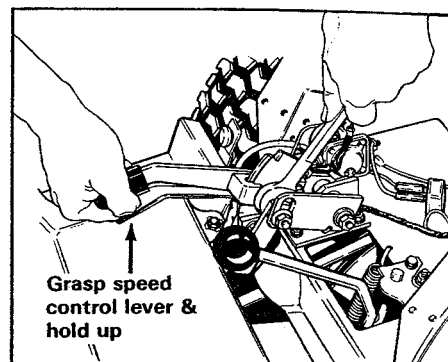

Figure 27. Tightening the Shoulder Bolt
13. Tighten the shoulder bolt while holding the speed control lever as shown in figure 27.